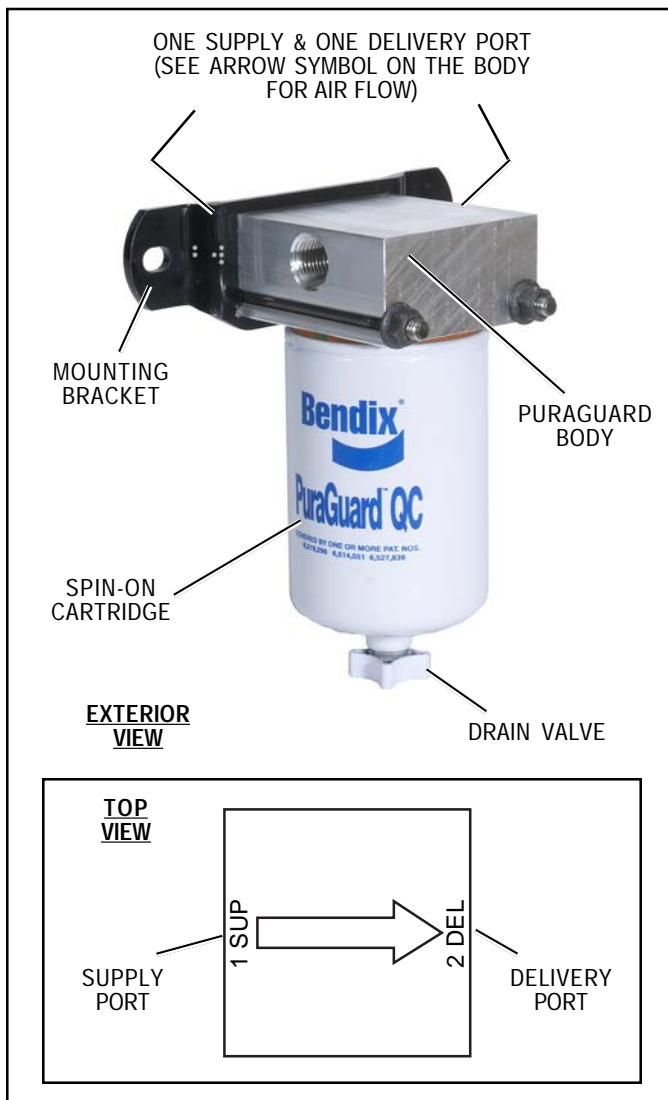

FIGURE 1 - PURAGUARD QC™ OIL COALESCING FILTER
The PuraGuard QC™ oil coalescing filter has two female pipe thread air connections: one supply, one delivery — identified by their relationship to the arrow symbol showing air flow on the PuraGuard QC™ filter top (see Figure 1).
1. The top of the system filter has an arrow symbol showing the air flow direction (see figure 1). Secure the mounting bracket to the body and spin-on cartridge.
2. Hoses must be installed without tight turns that might cause air flow restrictions. Note: Check that the hose attachment agrees with the air flow arrow symbol (see Figure 1).